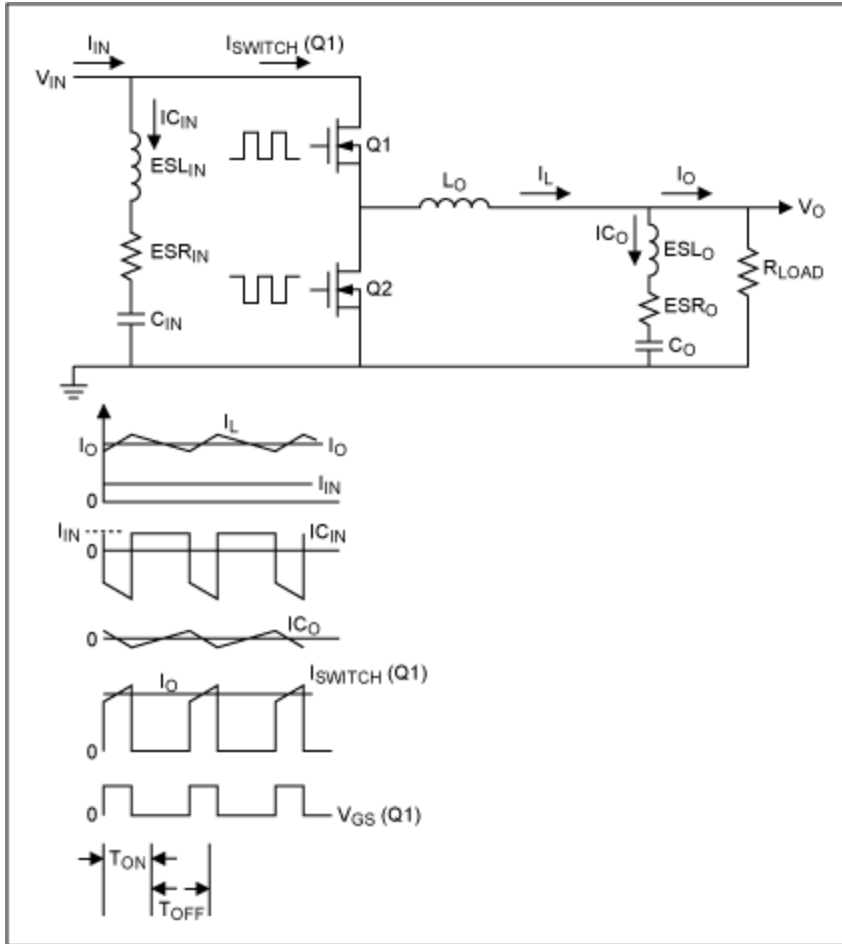

Figure 1. Typical synchronous buck power and waveforms.
**Figure 1** shows a typical schematic of a synchronous buck power stage and the associated waveforms to be used for the derivations and calculations.
As seen in Figure 1, the output ripple current through the input capacitor results in voltage across  $C_{IN}$  that reflects the values of ESR, ESL, and C. The ESR and ESL cause fast step voltage rise and fall, whereas C has a linear voltage rise and fall due to the fact that the capacitor charges and discharges. At the start of  $T_{ON}$ ,  $C_{IN}$  sees a negative step current, which will produce a negative step voltage given by the following equation: